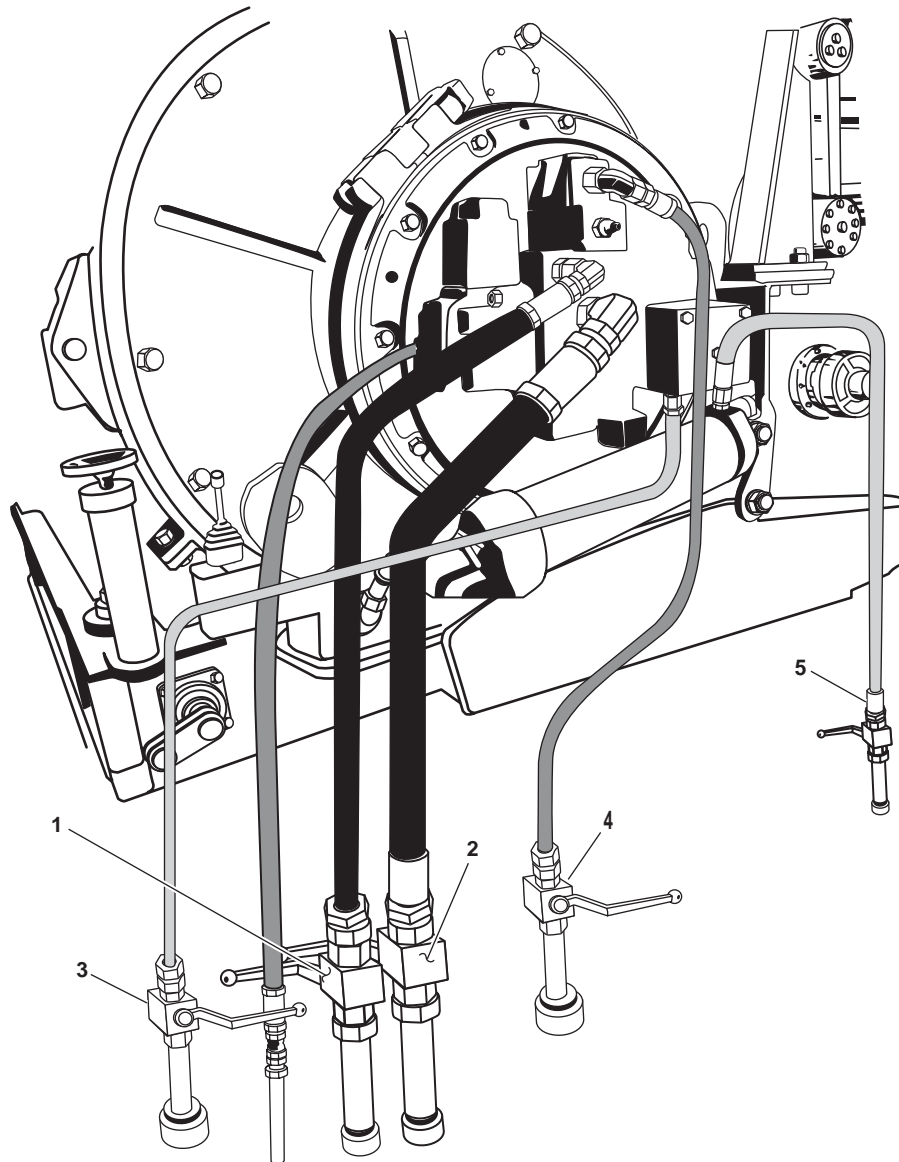

Figure 10. Starboard Towing Machine Isolation Valves
- a. TH-31, STBD TOW WINCH RETURN TO RSVR (figure 10, item 1)
- b. TH-33, STBD TOW WINCH PRESS TO DRUM (figure 10, item 2)
- c. TH-35, STBD TOW WINCH DR TO RSVR (figure 10, item 3)
- d. TH-37, STBD TOW WINCH DR TO RSVR (figure 10, item 4)
- e. TH-39, STBD TOW WINCH BRAKE DR TO RSVR (figure 10, item 5)